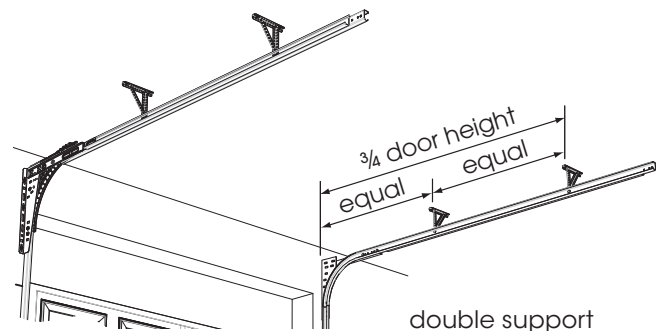

Fig: 3.3.2
- e) Measure along the horizontal track to the desired position and find a structurally sound location to fix your support to the ceiling or side wall. Fig 3.3.2.